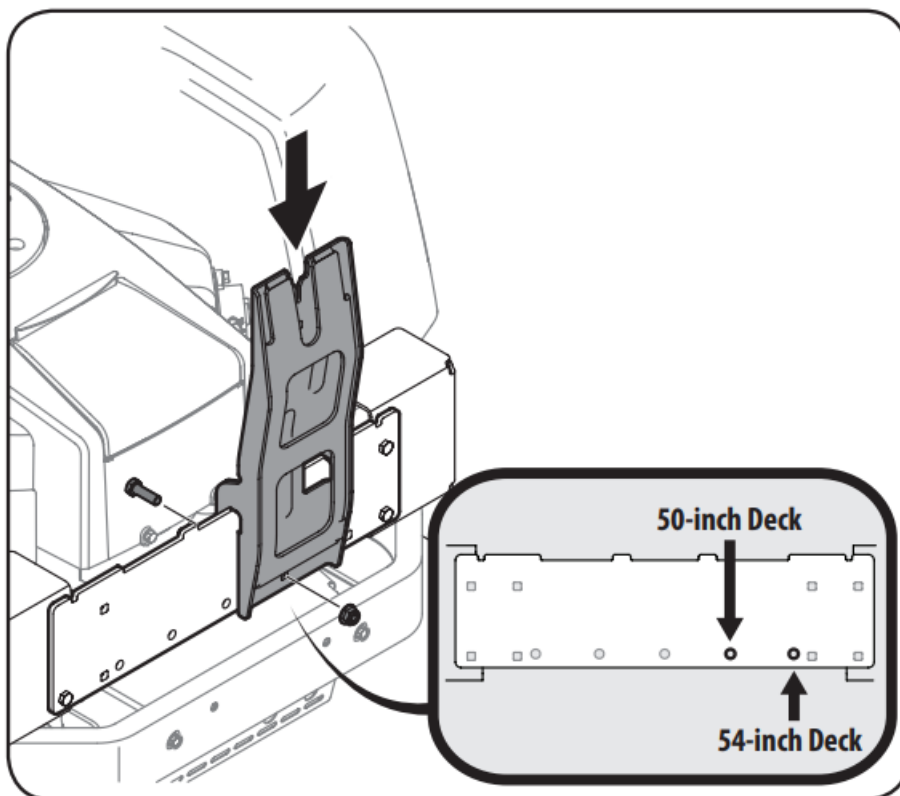

Figure 4-4
4. Install the upright support bracket onto the mounting assembly on the tractor by hooking it over the mounting assembly as shown in Figure 4-4.
5. Secure the upright support bracket to the mounting assembly in the mounting hole available for the deck size this bagger is being installed on. See Figure 4-4 for the proper mounting location. Use a 710-0376 hex bolt and